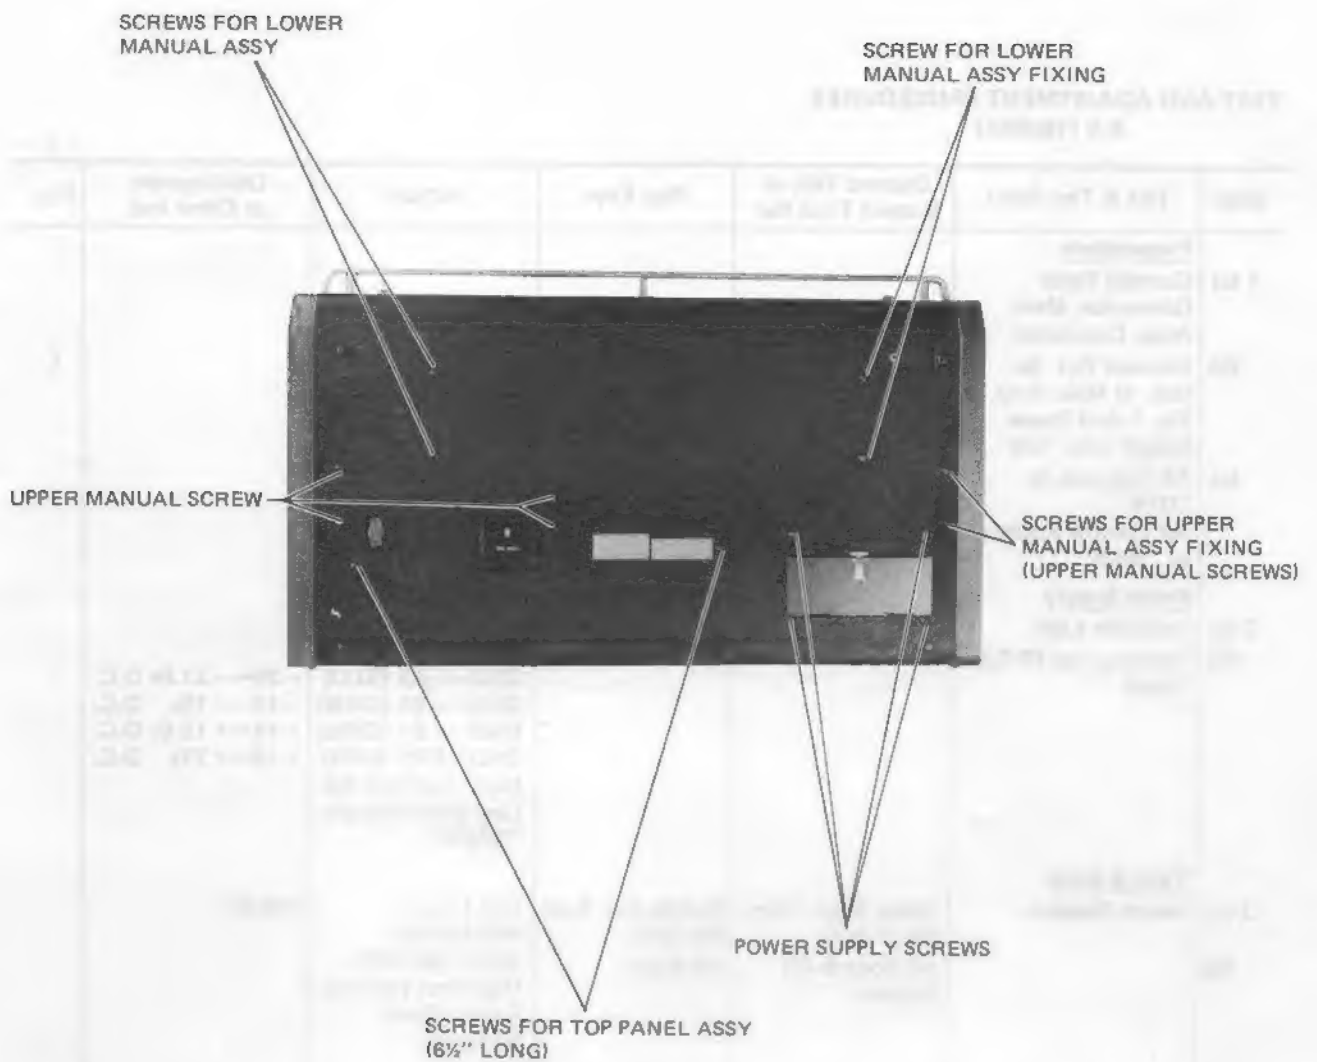

FIGURE 2-1
- a) Two (2) bronze screws (6½" long) located under Upper Section must be removed FIRST. (Note — See Figure 2-1 for location).
- a) See figure 2-1 for location — Remove six (6) 1" long bronze screws from under side of Upper Section.
- b) See Figure 2-1 for location. Remove four (4) 1" long bronze screws from under side and toward front of Upper Section.
- b) Remove six (6) screws fastening cover above power supply assembly — Remove cover.
- c) From under side, right rear of Upper Section remove four (4) screws. See Figure 2-1 for location.